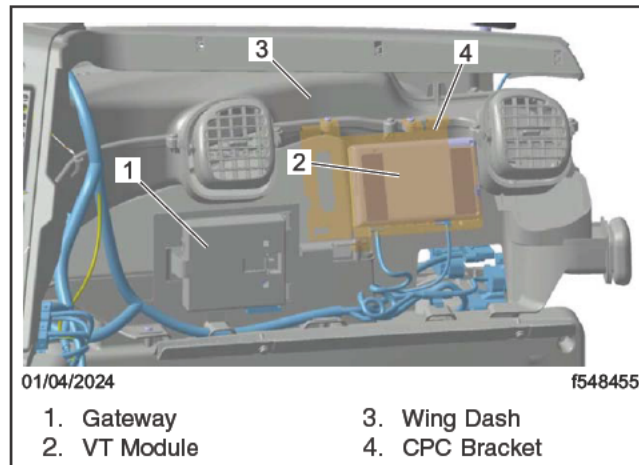

Fig. 8, VT Module Installation on the Back Side of the CPC Bracket
7. Locate the 10-pin and 4-pin electrical connectors, and attach them to the VT module, as shown in Fig. 8.
10. Use zip ties to secure both the VT module and the CPC to the CPC bracket, as shown in Fig. 8.